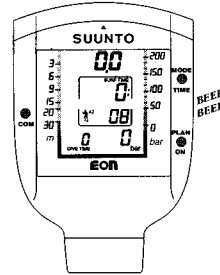

Fig. 4.15 ALTI-TUDE/PERSONAL ADJUSTMENT SETTING, step 5
5. The process is ended by the RETURN command, i.e. by connecting all three contacts at the same time (Fig. 4.15). A double beep is heard and the **Eon** will return to the surface mode.